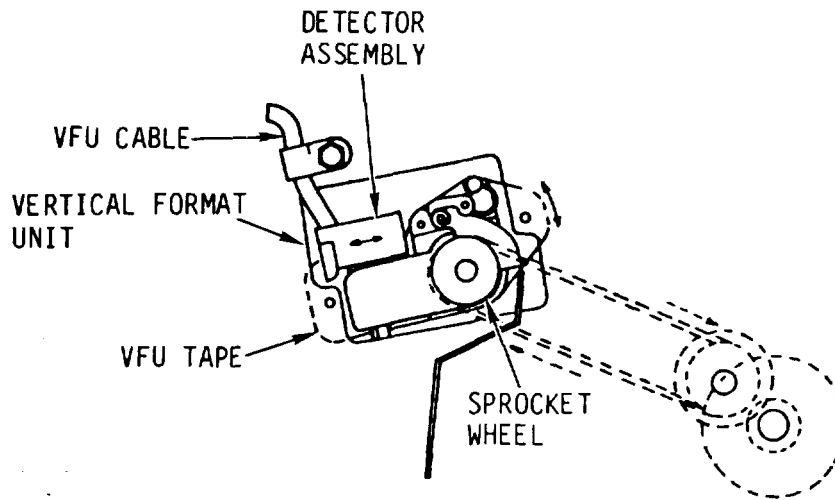

Figure 2-11. Slew Strobe Data Source
(4) The vertical format unit (VFU) provides preprogrammed linefeed data to the slew strobe assembly. It is a data source (fig. 2-11) for the slew strobe assembly. The data punched on the VFU tape is read by the detector assembly. The data is sent by the VFU cable to the mother board (LMB/16) and the TVFC/1 board. The slew strobe assembly then advances paper to positions determined on the VFU tape.